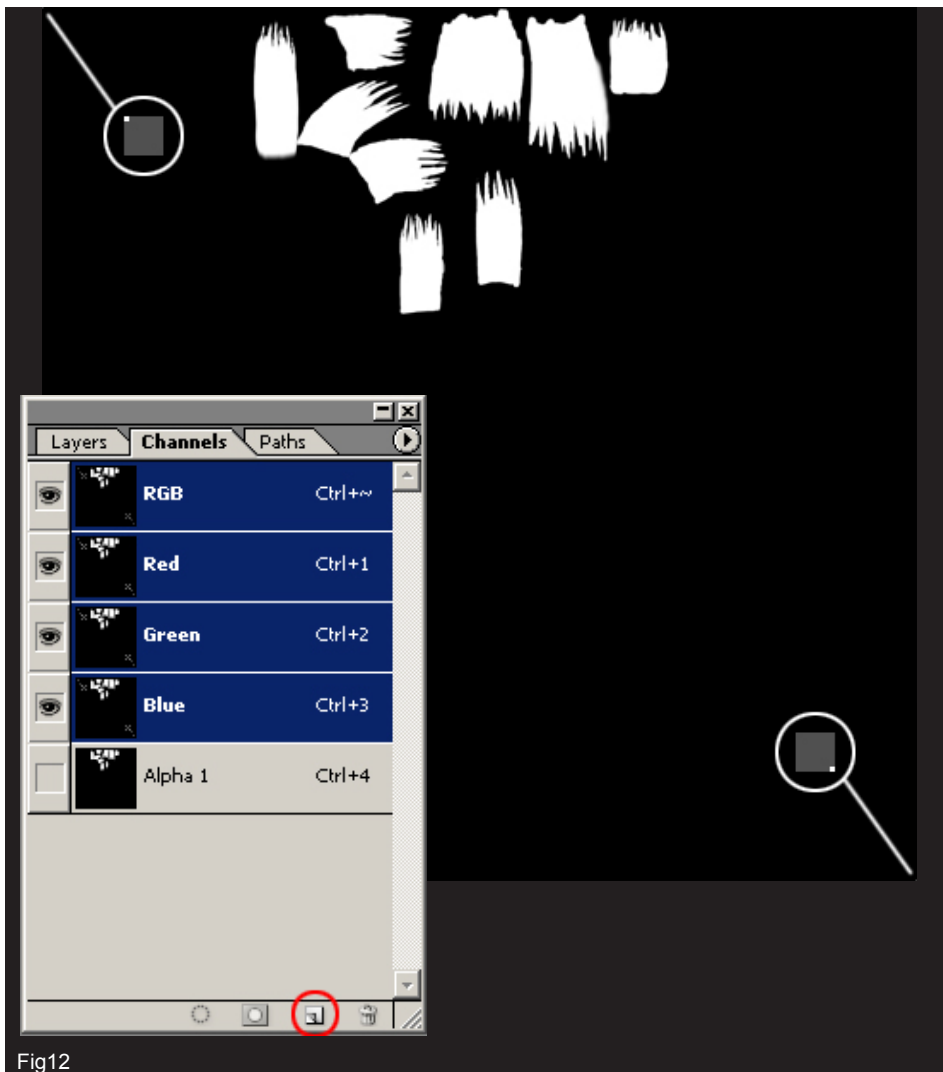

Fig12
12. Select the Channels tab and click on the small icon ringed in red in Fig.12a. This will create a new channel that is called 'Alpha 1' by default. Now, before we paste our hair outline into this new channel, zoom in on two opposite corners and paint in a 1x1 pixel square, as seen in Fig.12. This will not effect the texture as the two squares are outside the mapping co-ordinates but will ensure that the hair shapes remain in exactly the same positions when they are pasted.